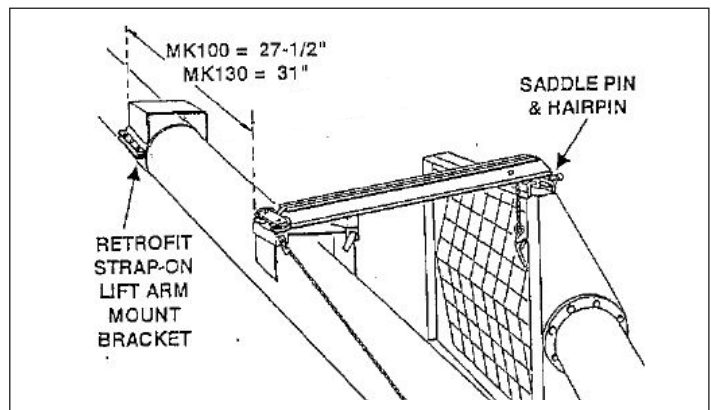

Figure No. 4
2. Remove present lift arm and cable, then attach the strap-on lift arm mount bracket above present bracket as shown (see **Figure No. 4**) with the MK100 bracket at 27-1/2" and the MK130 at 31". Measure from upper edge of each bracket.